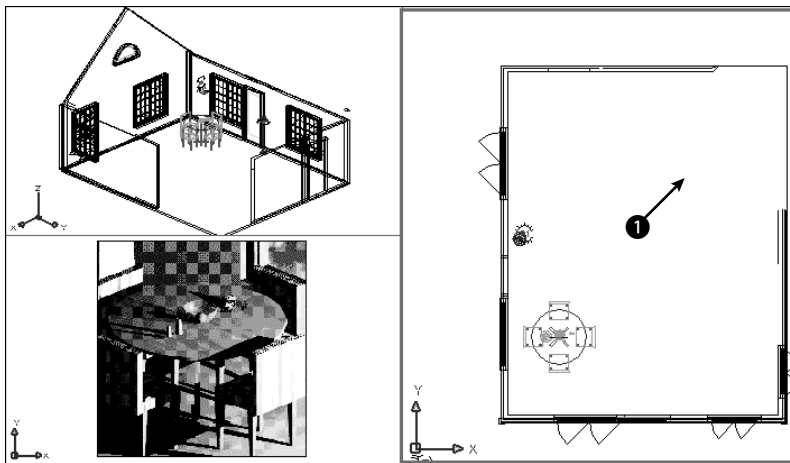

Figure 27-9: The drawing with a rendered view in one viewport.
11. Click the Layout1 tab to enter paper space, which has three floating viewports. Click PAPER to enter model space. Click the bottom-left viewport. Choose View ⇨ 3D Views ⇨ Top. You should now see the images as a small dot to the left of the house. Use Zoom Window to zoom into the rendered table. Your drawing should now look like Figure 27-9.
12. Click the right viewport. If necessary, pan the house to the right until you can see the two images you attached. Move the Cottonmill Houses image to ❶ in Figure 27-9. Scale it, using a base point at its lower-left corner and a scale factor of 25. Move it until it fits nicely in the upper-right corner of the floor plan. Pan again to center the house in the viewport. (If it disappears, do a Zoom Extents.)